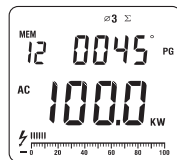

Figure 14
- If necessary, press  $\Sigma$  to get the sum of watts as figure 14.